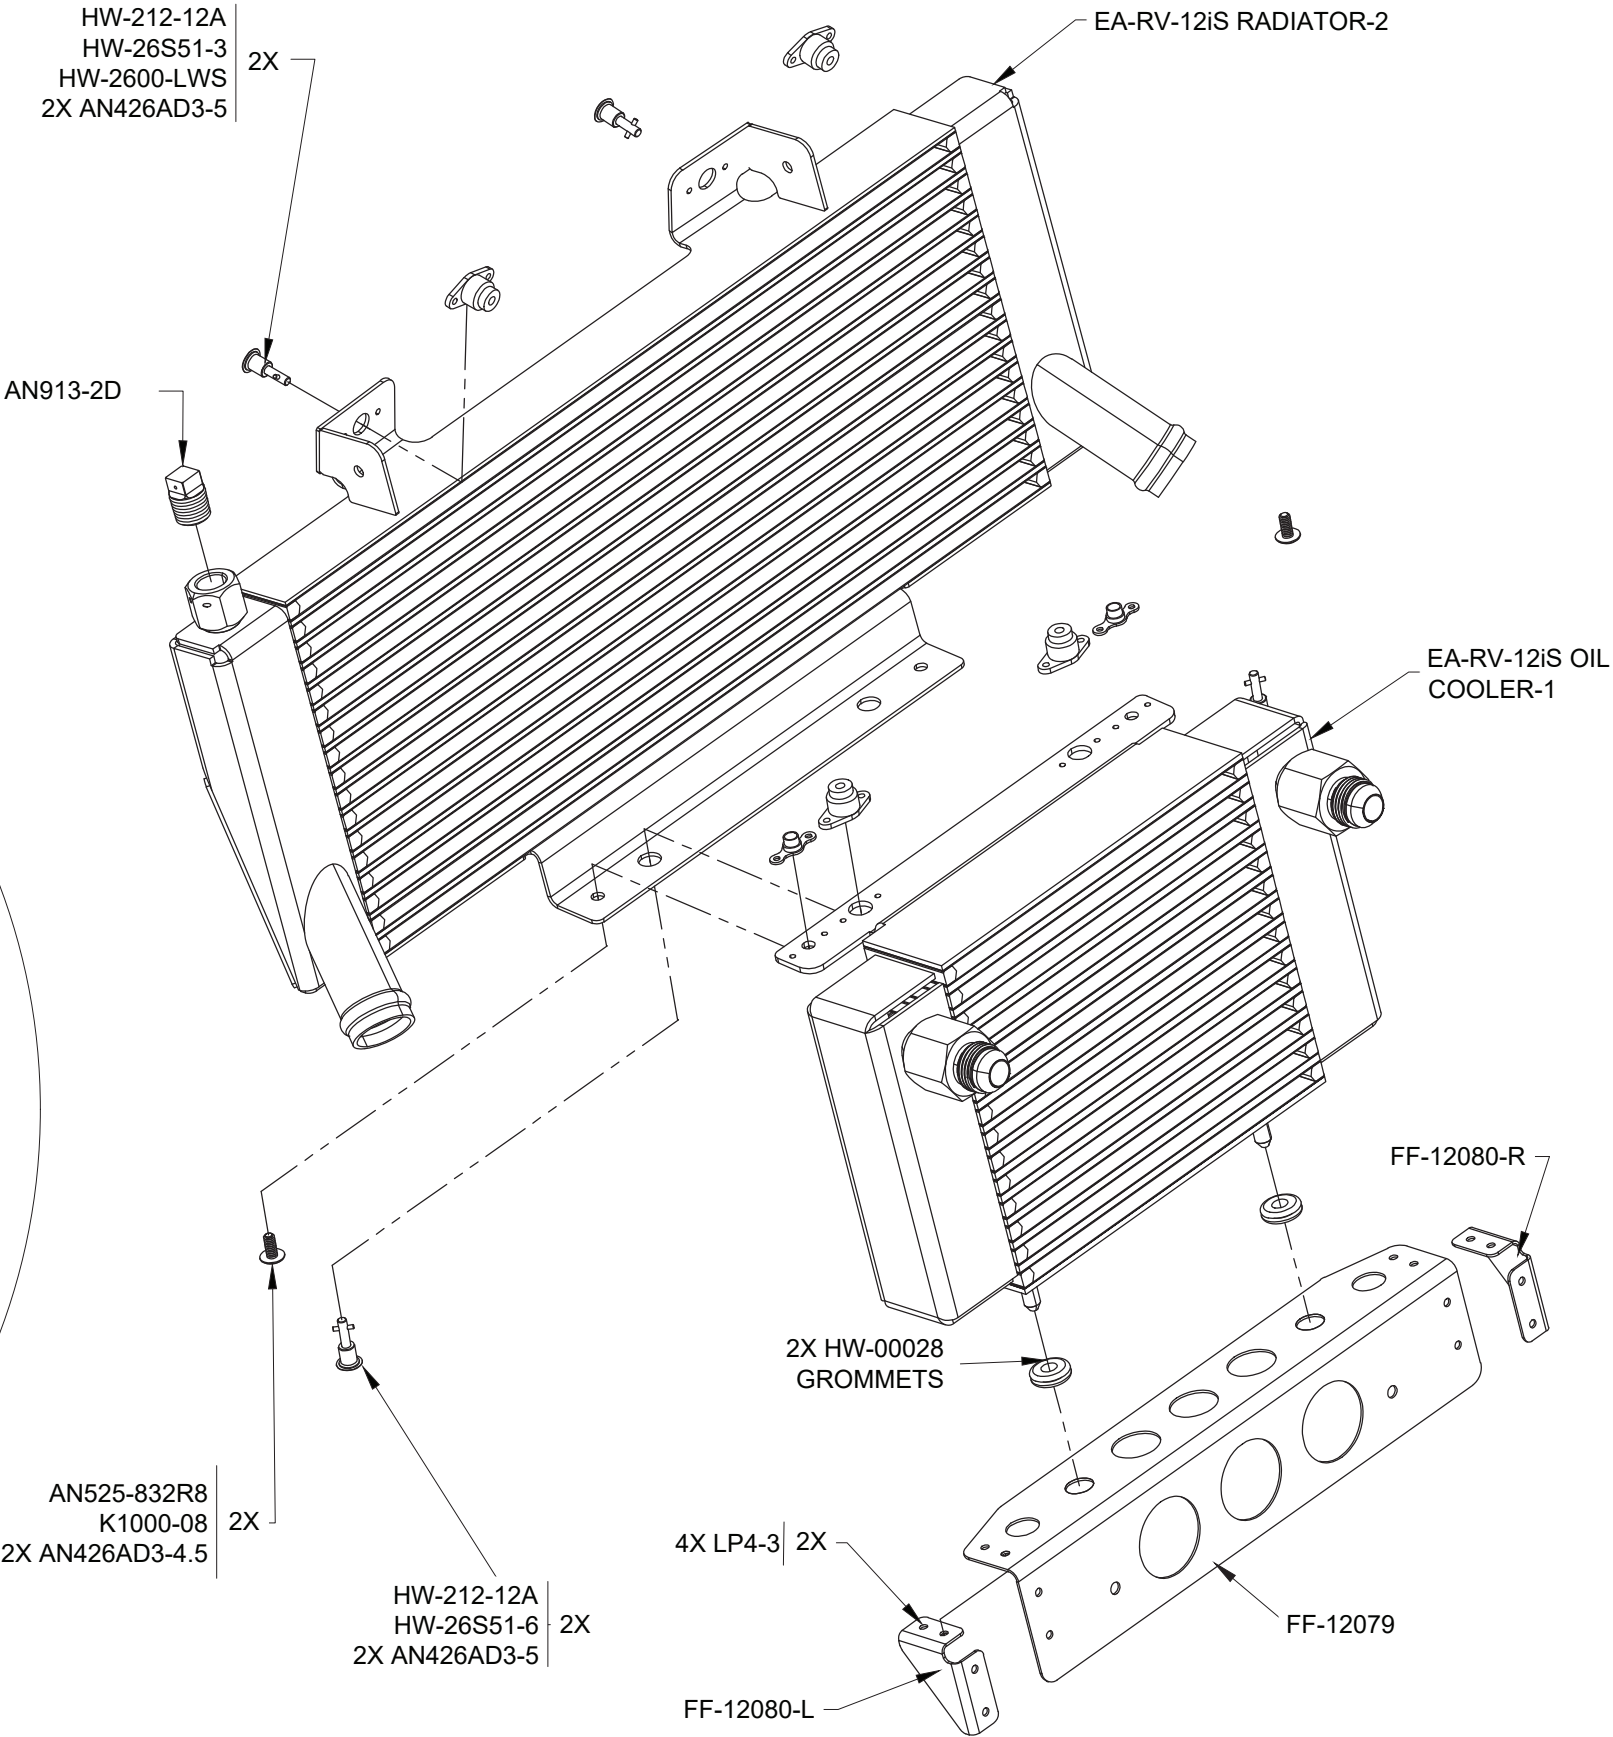

FIGURE 1: OIL COOLER AND RADIATOR ASSEMBLY
Step 3: Place Radiator and Oil Cooler in the cowl as shown in Figure 1. Align center marks to locate Radiator and Oil Cooler left/right. Radiator and Cooler should be centered visually in their respective openings on the cowl. FF-12079 Should be flush to the bottom of the Oil Cooler and flush with the inside face of COWL-00014. Trim cowl as necessary per Section 37iS/U-20.